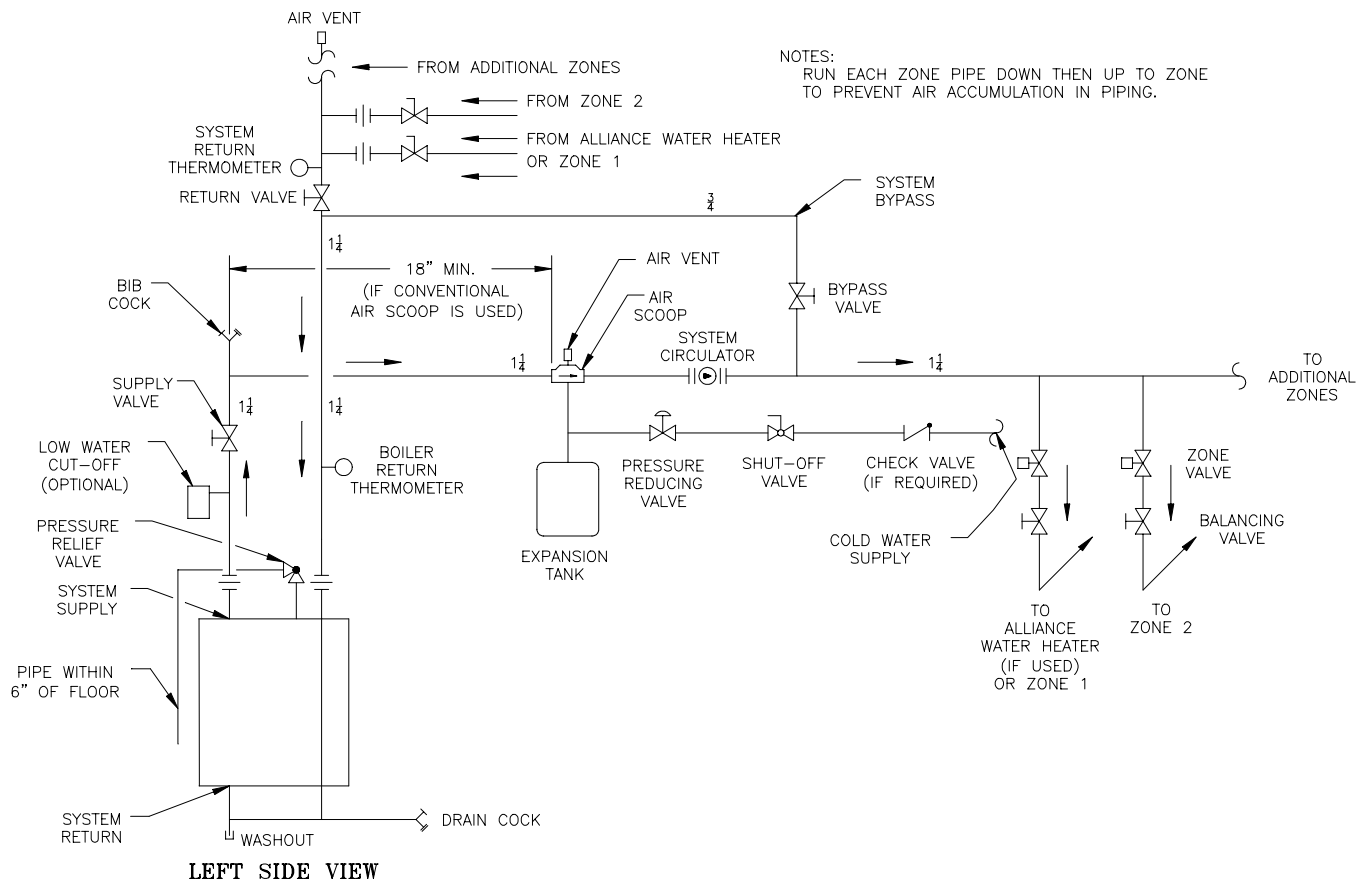

Figure 5: Recommended Boiler Piping for Zoning with Valves
2. Tilt boiler, "walk" boiler backward, and set rear legs down on floor. Tilt boiler backward, pull skid forward and set front legs down on edge of skid. Install close nipple, tee, and plug in return coupling. See Section III and Figure 5. Point tee toward permanent return location.
B. Connect System supply and return piping to boiler. See Figures 5 and 7. Also consult I=B=R Installation and Piping Guides. Maintain minimum ½ inch clearance from hot water piping to combustible materials.
The bypass should be the same size as the supply and return lines with valves located in the bypass and return line as illustrated in Figures 5 and 7 in order to regulate water flow for maintenance of higher boiler water temperature.
C. Install Safety Relief Valve. See Figures 5 and 7. Safety Relief Valve must be installed with spindle in vertical position. Installation of the relief valve must be consistent with the ANSI/ASME Boiler and Pressure Vessel Code, Section IV.
D. Install Drain Valve in return piping. See figure 5.
G. Fill entire heating system with water and vent air from system. Use the following procedure on a Series Loop System equipped with zone valves. (See Figure 5).